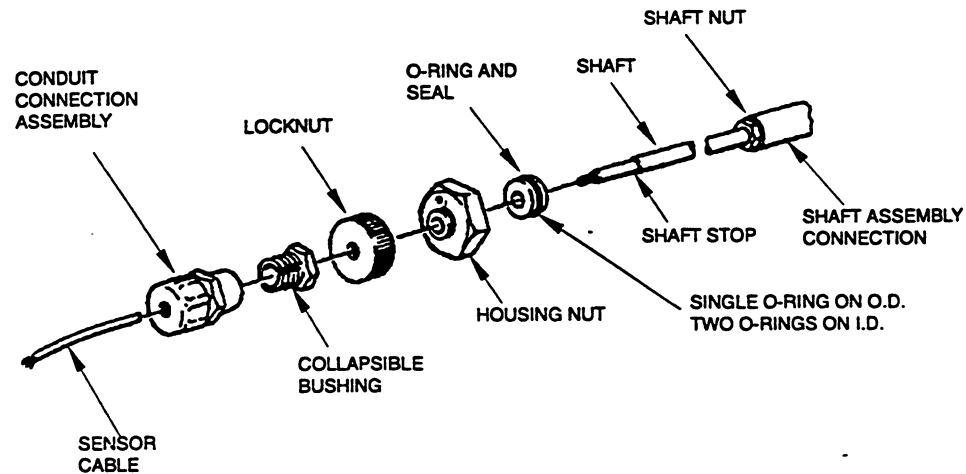

Figure 5. Pre-assembly of Shaft Assembly
2. Make sure the shaft assembly is pre-assembled as shown in Figure 5.